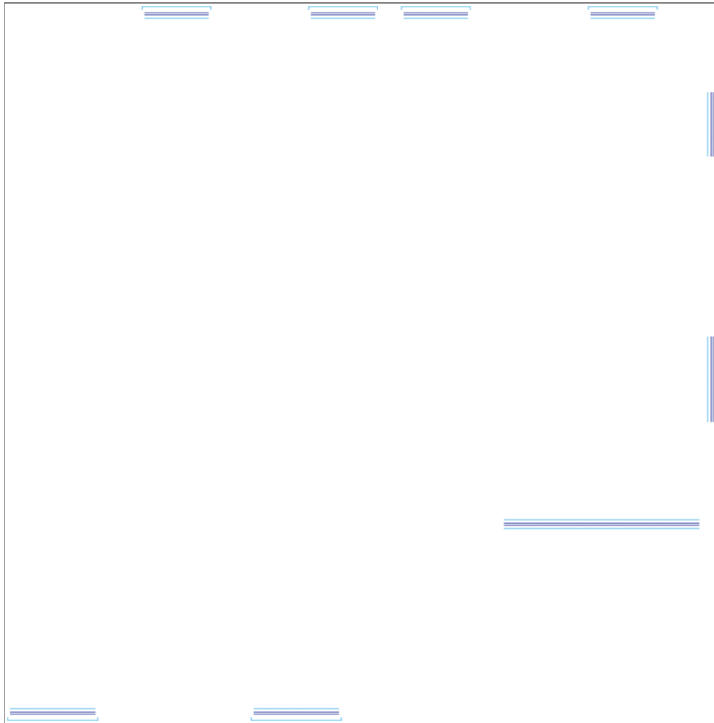

FIGURE 6.14 Isolating a couple of layers for focused work
2. Click the Isolate tool on the Layers panel, and then make a crossing selection through one of the windows. Press Enter and all the other layers disappear (see Figure 6.14).